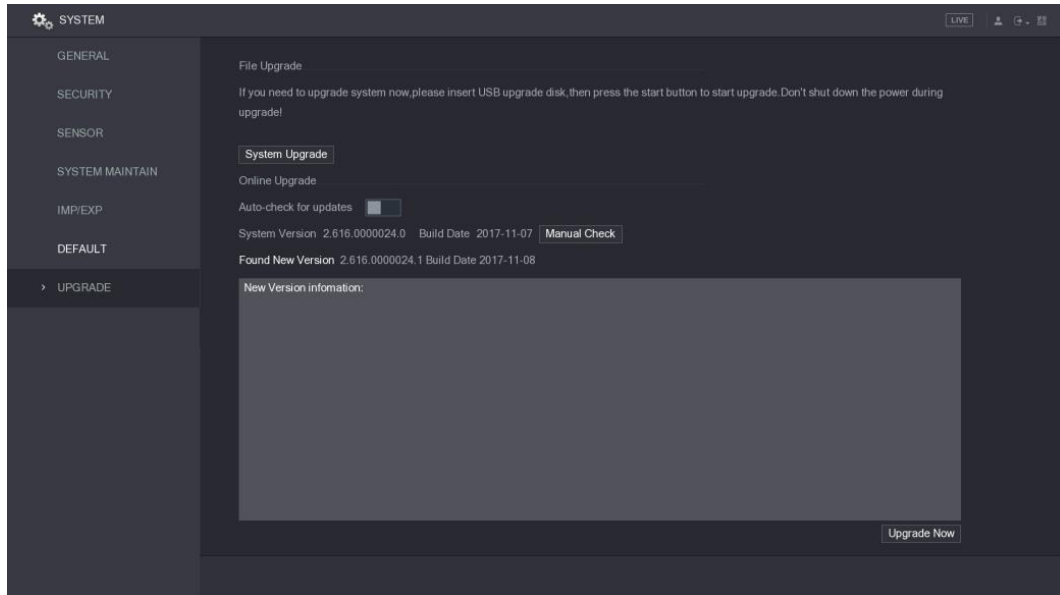

Figure 5-264
- If the text indicating there is a new version, please go the step 3. See Figure 5-264.